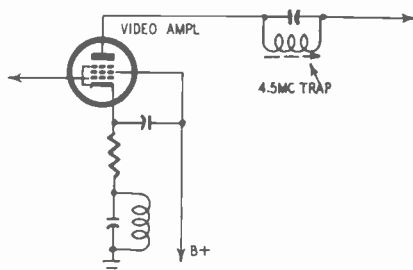

Fig. 3-S. Misaligned sound trap results in sound bars in pix.
**SERVICE:** Misaligned traps in the video if or in the video amplifier (Fig. 3-S) are a common source of sound bars in the pix. Adjacent-channel sound interference is easily recognized since the bars do not follow the sound accompanying the picture on the screen. In addition, adjacent-channel audio will usually cause trouble on only one channel and even then not all the time.